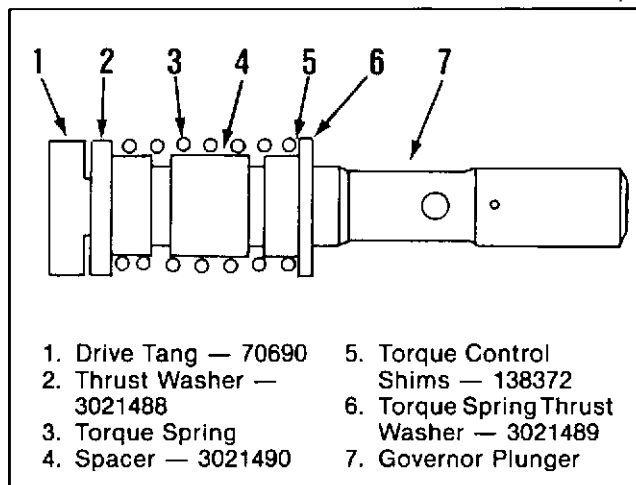

Fig. 2-9, (F5394). Special overspeed type of governor plunger.
- a. This governor plunger uses a thrust washer on the barrel side of the torque spring, Fig. 2-9.